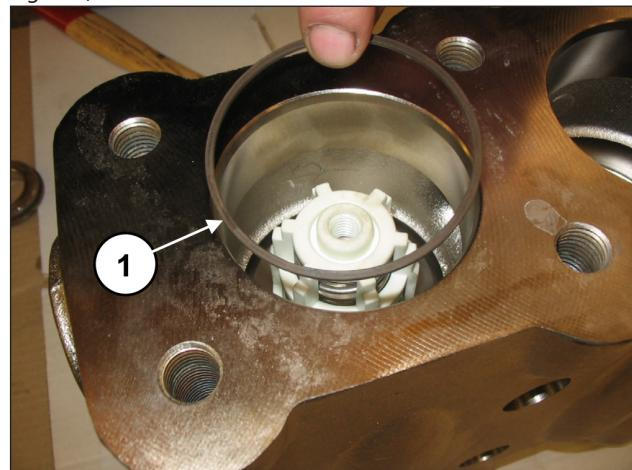

Fig. 126
Insert the back-up ring, exploded view pos. 16 (pos. ①, Fig. 126).